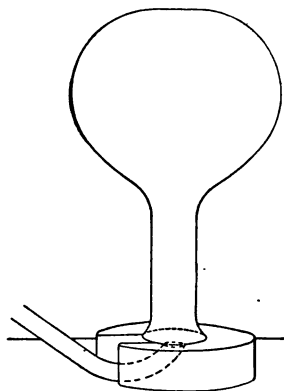

FIG. 19.
M. Not of itself, but with the oxygen which comes out. Now I bring the tube below the water again, and hold the flask over it. But in order not always to have to hold it, I place it in a little lead stand, below which the tube ends, so that the bubbles rise in the flask and expel the water (Fig. 19). In the mean time I will